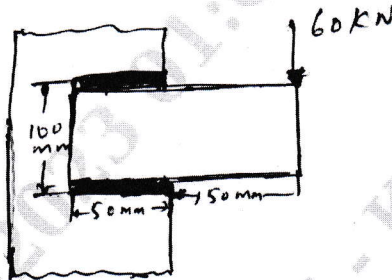

Fig.Q8(a)
- 8 a. A welded connections as shown in Fig.Q8(a) is subjected to an eccentric force of 60 kN in the plane of the welds. Determine the size of welds, if the permissible shear stress for the weld is  $100 \text{ N/mm}^2$ . Assume static conditions.